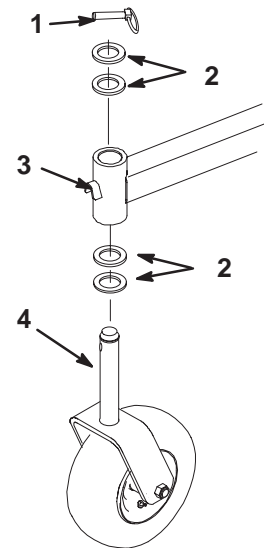

Figure 61
2. Remove the locking pin and spacer(s) from the top of the castor wheel fork (Fig. 61).
6. Inspect the castor wheel fork for wear and replace if necessary (Fig. 61).
7. Slide the castor wheel fork through the bushings in the mounting tube. Replace the spacer(s) onto the fork and secure with the retaining ring (Fig 61).